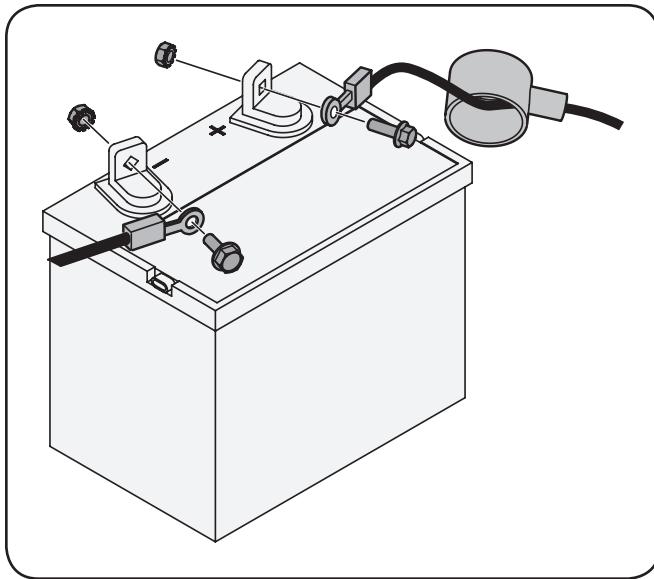

Figure 3-12
2. Remove the plastic cover, if present, from the positive battery terminal and attach the red cable to the positive battery terminal (+) with the bolt and hex nut. See Fig. 3-12.
3. Remove the plastic cover, if present, from the negative battery terminal and attach the black cable to the negative battery terminal (-) with the bolt and hex nut. See Fig. 3-12.